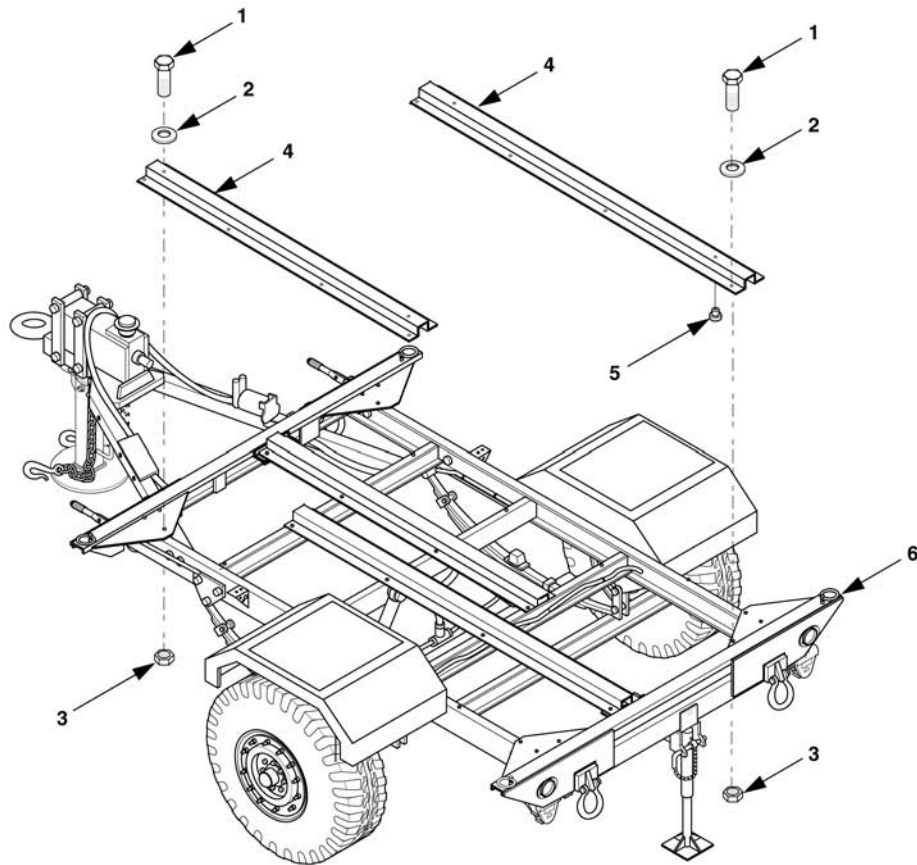

Figure 5-23. Replace AN/MJQ-35 Generator Mounting Rail.
Remove self-locking nuts (3, figure 5-23), flat washers (2), cap screws (1), and mounting rail (4).